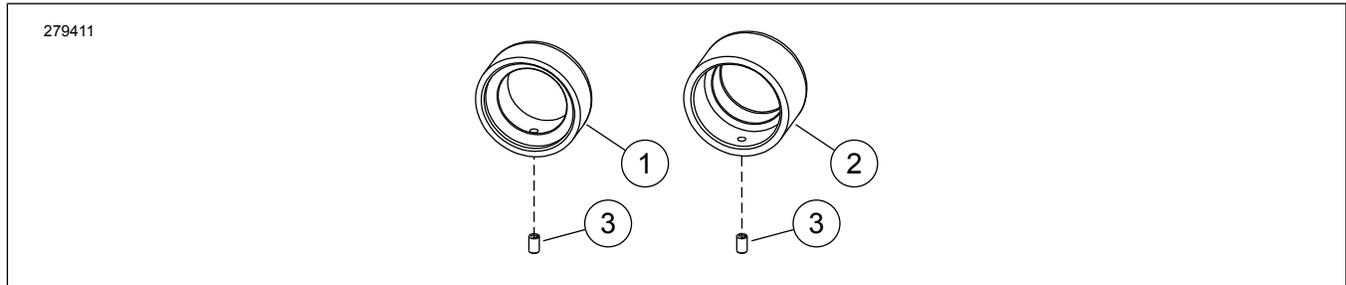

Figure 1. Rear Axle Nut Cover Kit
1. See Figure 1. Partially install a set screw (3) into the threaded hole in each axle nut cover (1, 2).
3. Tighten the axle nut-cover set screws (3) securely.